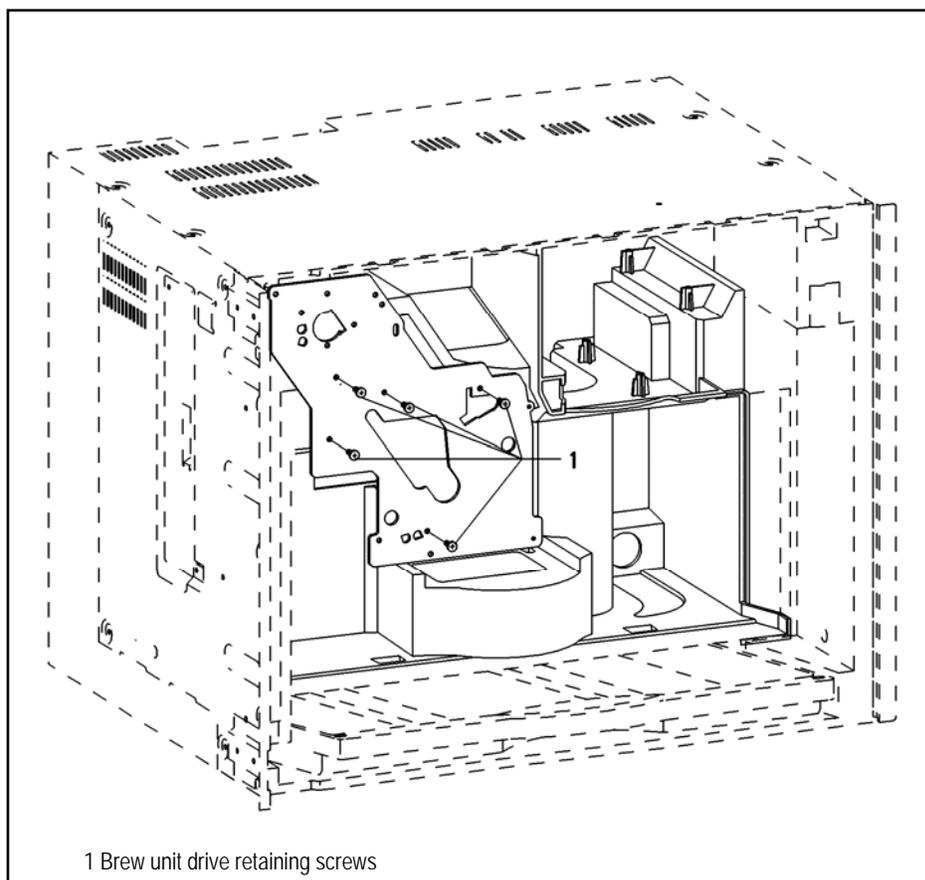

Figure 5-13: CVA4070 Brew Unit Retaining Screw Removal
12. Remove the brew unit drive retaining screws (Figure 5-13, Item 1).